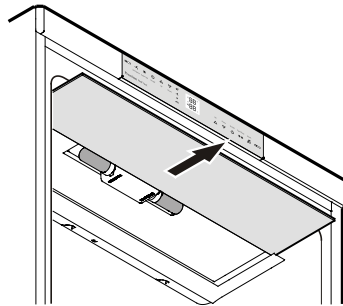

Figure 12
2. Remove the glass plate - **Fig. 12**.